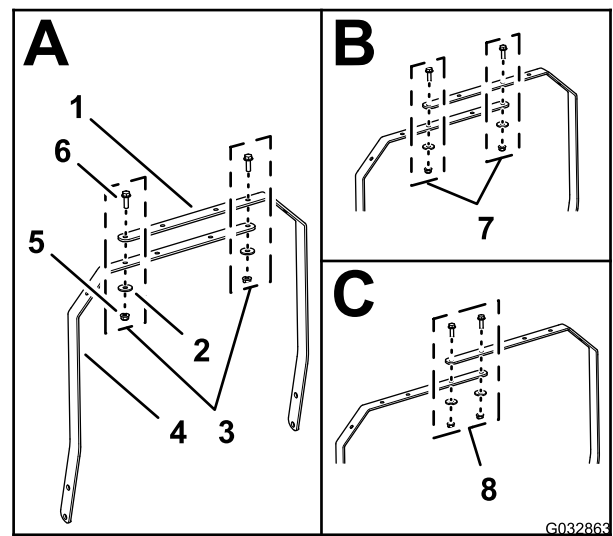

Figure 9
- **For 800 Series Machines**—align the 2 holes of the left light-bar strap and the right light-bar strap as shown in A of Figure 9.
- **For 1000 Series Machines**—align the 2 holes of the left light-bar strap and the right light-bar strap as shown in B of Figure 9.
- **For 1600 Series Machines**—align the 2 holes of the left light-bar strap and the right light-bar strap as shown in C of Figure 9.